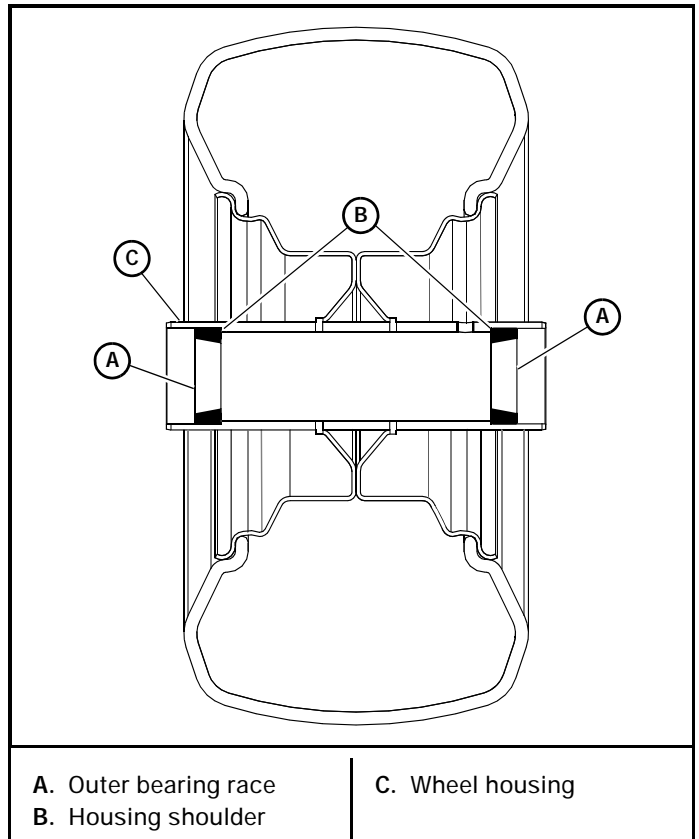

Figure 4-27
1. Press the new outer bearing races into the wheel housing until they are fully seated against the housing shoulder. Figure 4-27